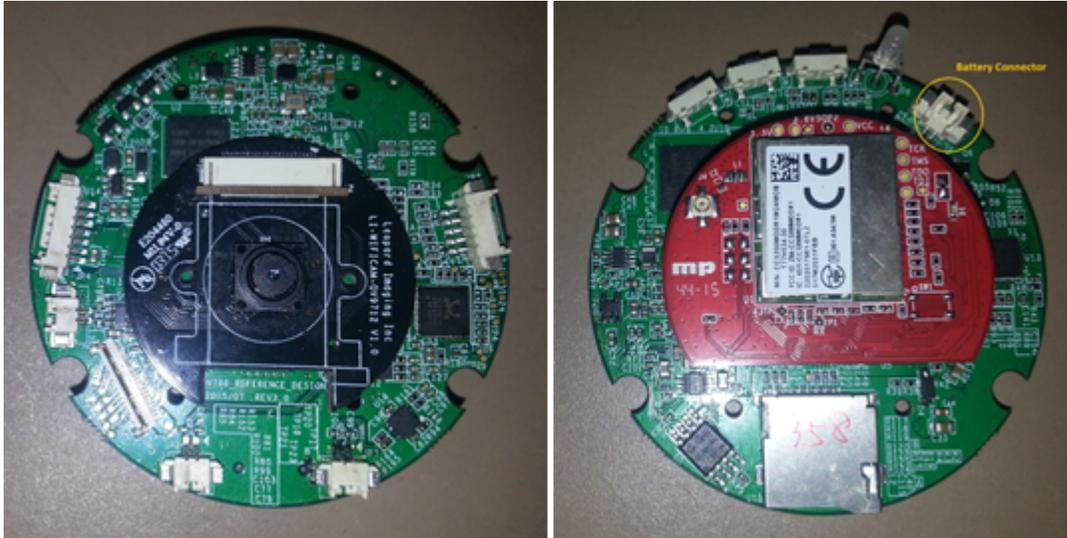

Figure 12. Assembled CC3200-MODULE and OV788 System
1. Mount the CC3200-MODULE board on the OV788 board as shown in Figure 12. Ensure J1 of both boards are aligned with each other.
2. Power up the OV788/CC3200-MODULE setup using the battery connector shown in Figure 12. On powering up: